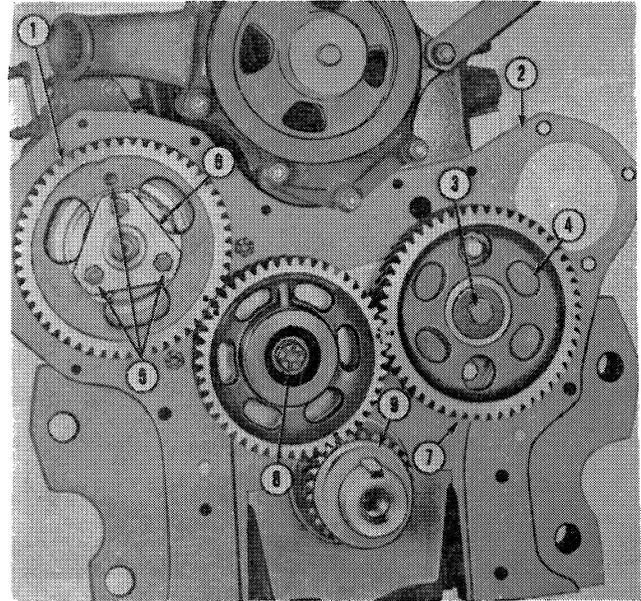

Figure 27
1. Turn the crankshaft until the camshaft gear is in the approximate timed position, Figure 27.
2. Remove the three attaching bolts that retain the injection pump gear, Figure 27, to the pump adapter plate and remove the gear.
reinstall the camshaft drive gear in mesh and the timing marks aligned to the other gears as shown in Figure 27. Tighten the camshaft drive gear adapter bolt to the specified torque, page 76.
1. Remove the retaining bolt and washer, Figure 27.
When removing or installing any of the timing gears, be sure that the timing marks line up correctly, as shown in Figure 27. The No. 1 piston must be at T.D.C. on the firing stroke when the timing marks are aligned.
2. Install the oil slinger dish out, Figure 27.